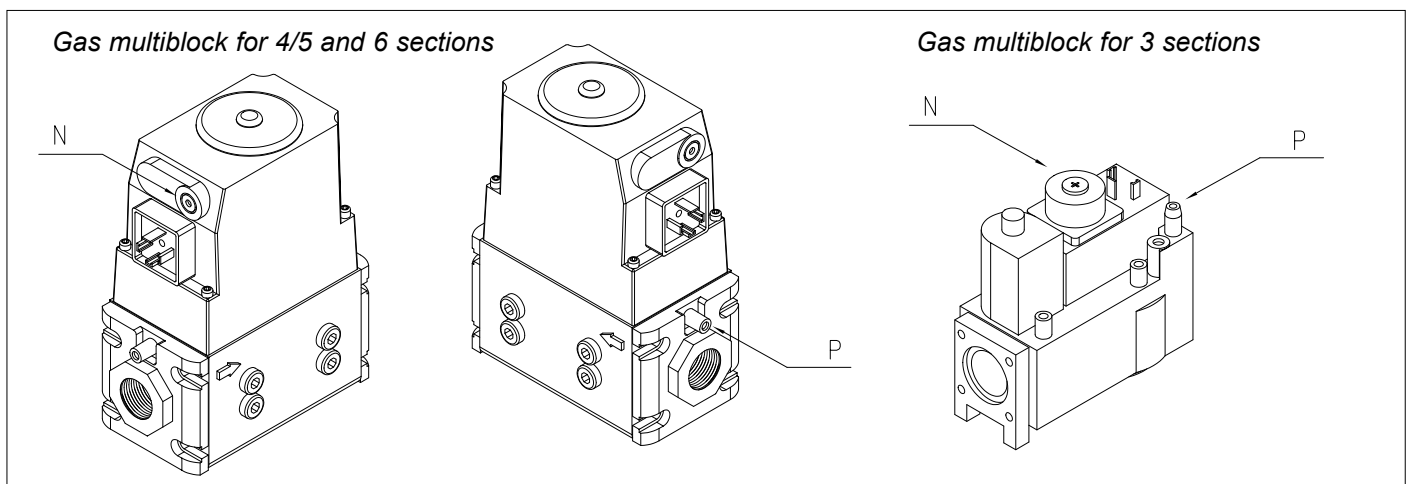

Fig. 22 Zero point adjustment gas combi-block
- 16e. When full load is reached, check gas pressure (with removed front casing) against Table 22. The pressure has to be 0 mbar. Adjust if necessary using the adjustment screw on the gas combi-block. Re-adjustment takes place with the zero point adjustment of the gas combi-block (see Fig. 22).